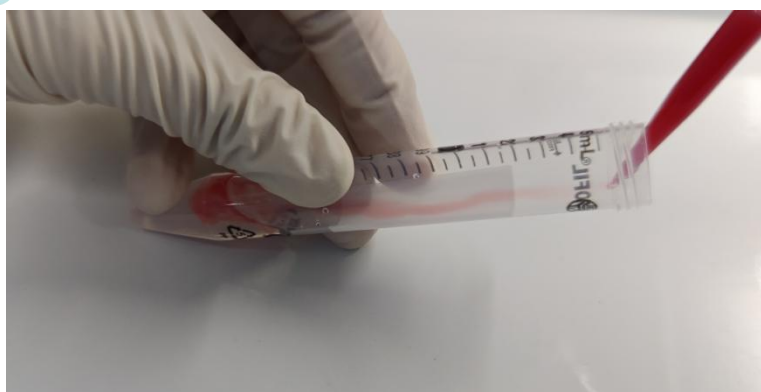
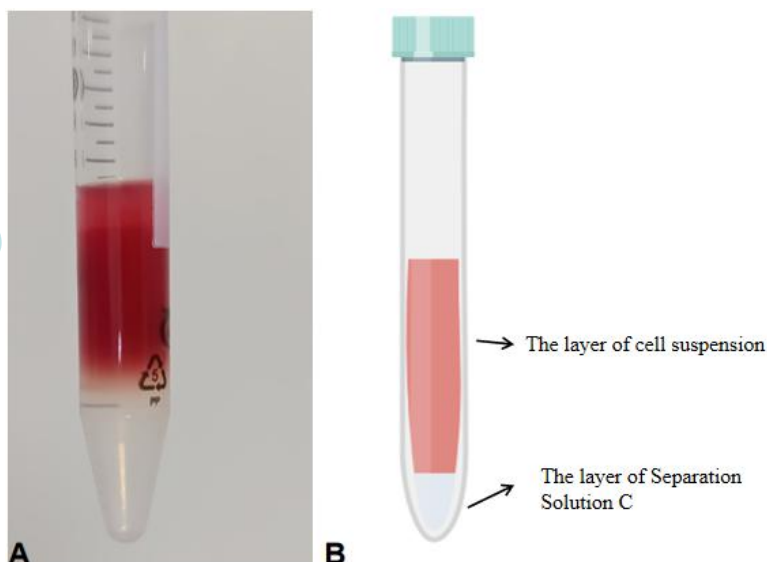

Figure 2. Demonstration of Layered Operation of Cell Suspension and Separation solution
Figure 3. Reference diagram for liquid level stratification
- (1) Centrifuge 400 g of the cell filtrate obtained in the above steps for 10 minutes, discard the supernatant, and retain the precipitate.
- (2) Resuspend the precipitate using 6 mL of **Special Separation Solution A For Rat Kupffer Cells**, centrifuge 900 g for 15 minutes.
- (3) Take a new 15 mL centrifuge tube and add 3 mL of **Special Separation Solution C For Rat Kupffer Cells** for later use.
- (4) After centrifugation, remove the centrifuge tube and discard the supernatant (which consists of hepatic stellate cells a small amount of liver sinusoidal endothelial cells, kupffer cells, and hepatocytes), while retaining the precipitate. Resuspend and precipitate using 6 mL **Special Separation Solution B For Rat Kupffer Cells**.
- (5) Use a 1 mL pipette to collect the cell suspension from the 50 mL centrifuge tube, tilt the tube with the pipette tip against the wall of the tube, and gently blow out the cell suspension along the tube wall to slowly flow into the liquid surface above **Special Separation Solution C For Rat Kupffer Cells** (as shown in Figure 2), form two layers of liquid (as shown in Figure 3).